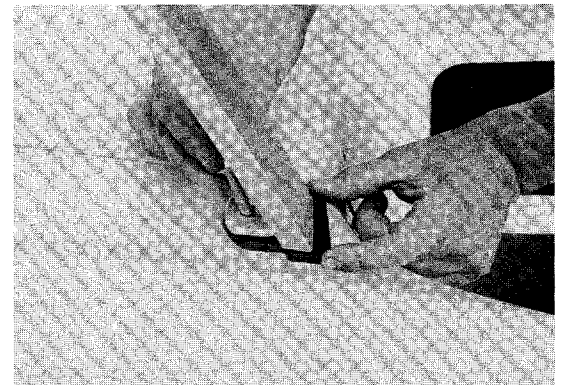

Figure 14-26
8. Remove 2 carriage bolts and nuts located at the rear of both seat back mounting plates (Figure 14-26).
9. Remove 4 bolts (11), locknuts (12) and flatwashers (13) at the front of both seat back mounting plates.
NOTE: Install mounting pads between body and seat back assembly (Figure 14-26).